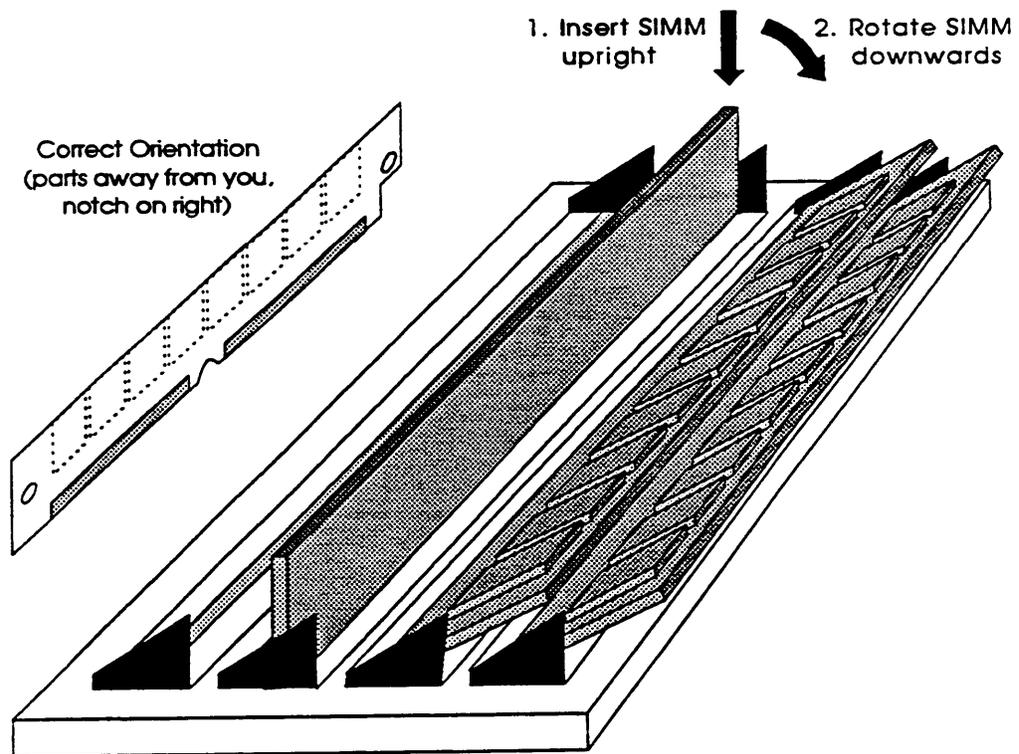

Figure 3-7. Inserting SIMMs in Socket
2. To insert a SIMM, hold it upright with the components facing away from you and the cutout notch on the right as shown in Figure 3-7.